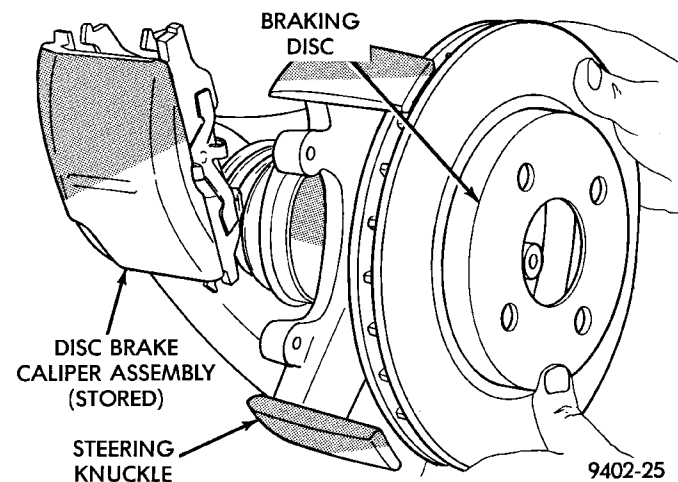

Fig. 8 Removing Front Braking Disc
(8) Remove braking disc from front hub (Fig. 8).
(9) Remove nut attaching outer tie rod end to steering knuckle. **Nut is to be removed from tie rod end using the following procedure: Hold tie rod end stud with a 11/32 socket while loosening and removing nut.**